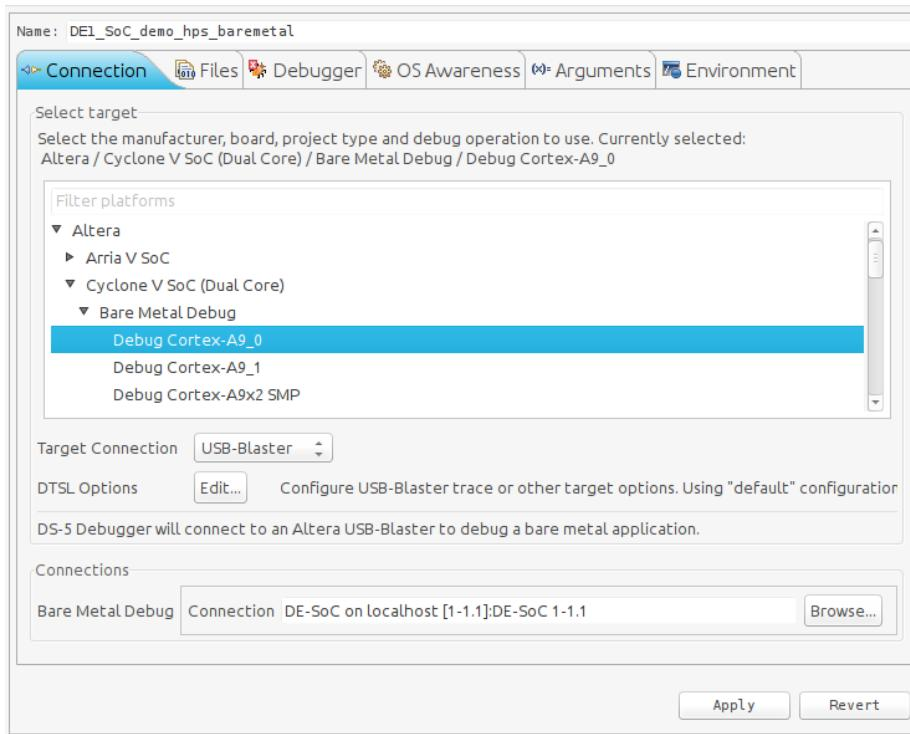

Figure 8-30. Debug Configuration “Connection” Tab
- d. You should have something similar to Figure 8-30.